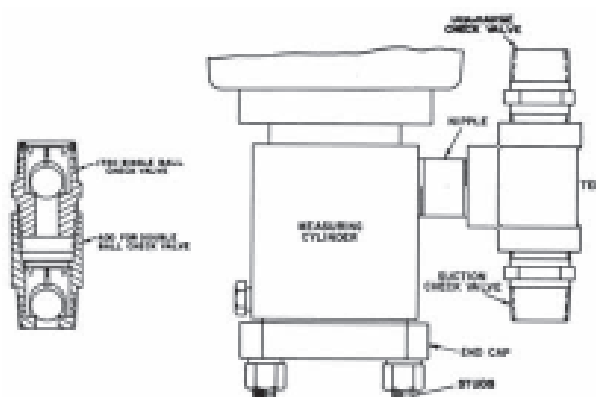

Fig. 10 - Components of Liquid Ends for Models 1720
*Applicable to Models 1730 & 1740. Model 1720 check valves are not serviceable and should be replaced as a whole. Refer to Fig. 10.